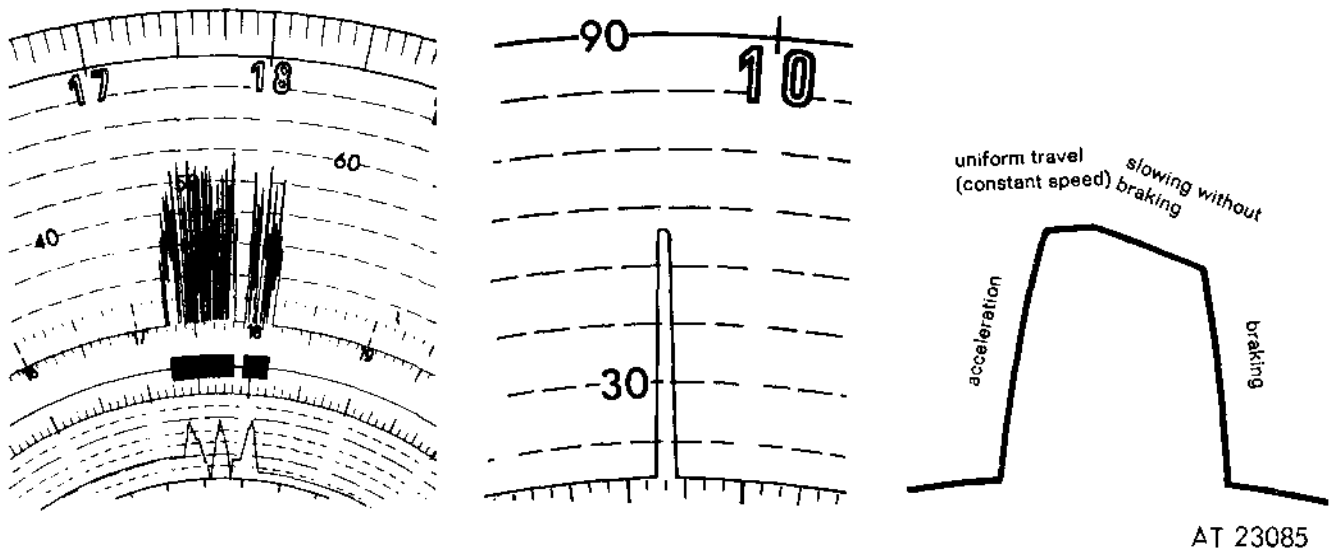

Figure 2-282. Good driving.
(2) *Economy and driving manner expressed in speed chart.* Figures 2-282 and 2-283 demonstrate good and bad driving charts, respectively.